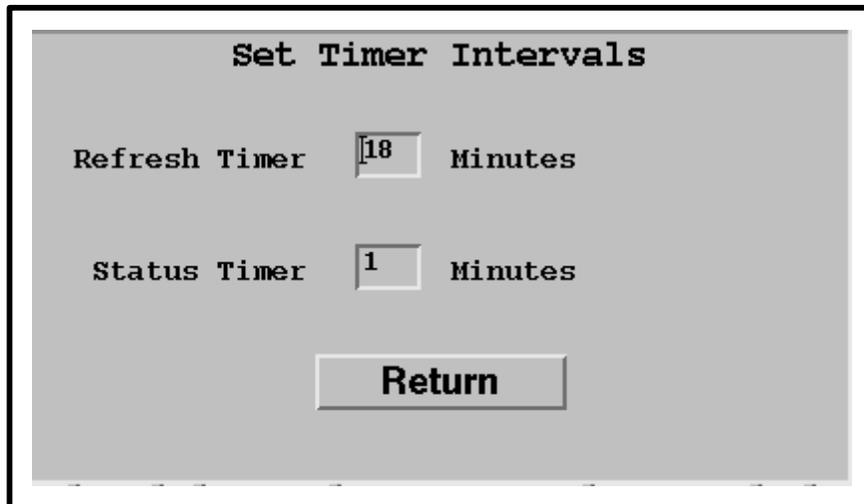

Figure 35. Set Timer Intervals Dialogue Box
- The **Set Timer Intervals** dialogue box (Figure 35) is displayed.